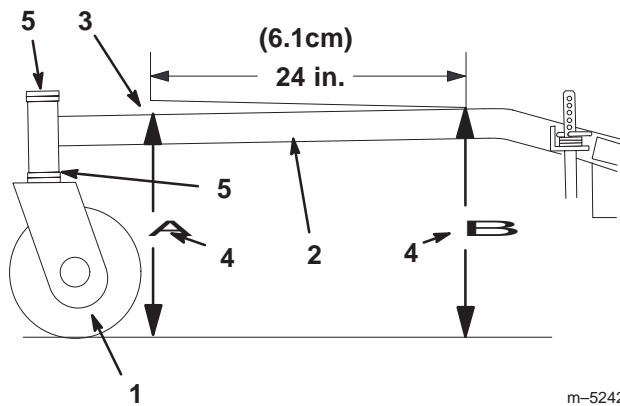

Figure 54
1. Measure out 24 inches on the carrier frame (Fig. 54).
2. Measure carrier frame height at location "A" (Fig. 54).
3. Measure carrier frame height at location "B" (Fig. 54).
4. The height at location "A" must be a 1/4–3/8 in. (6 mm –10 mm) lower than location "B" (Fig. 54).
5. If the carrier frame is not correct, move caster spacers to make it a 1/4–3/8 in. (6 mm –10 mm) pitch (Fig. 54). Move spacers from top or bottom to make the correct pitch.